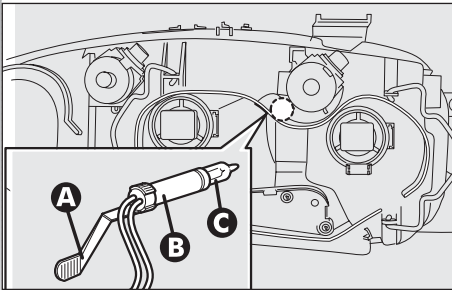

fig. 27a
**Front side lights (fig. 27a)**